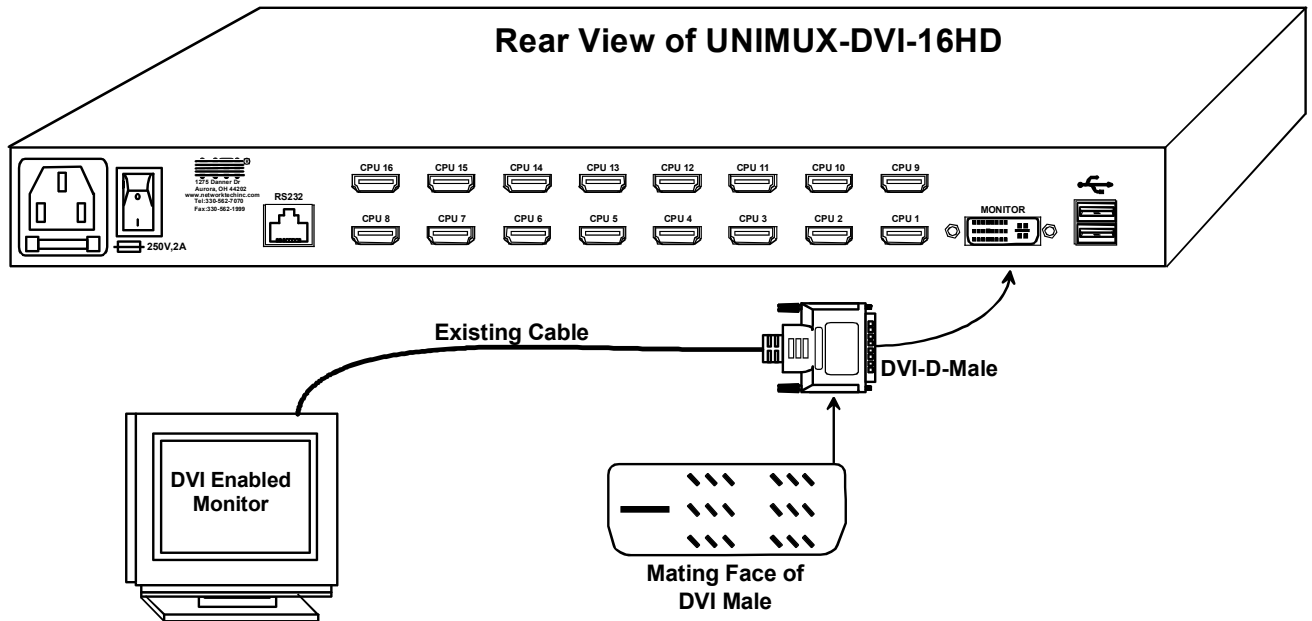

Figure 3- Connect a DVI monitor
2. Connect a DVI-to-DVI cable (should have come with the monitor) from a DVI monitor to the "MONITOR" connector on the rear of the UNIMUX (See Fig. 3 below.)